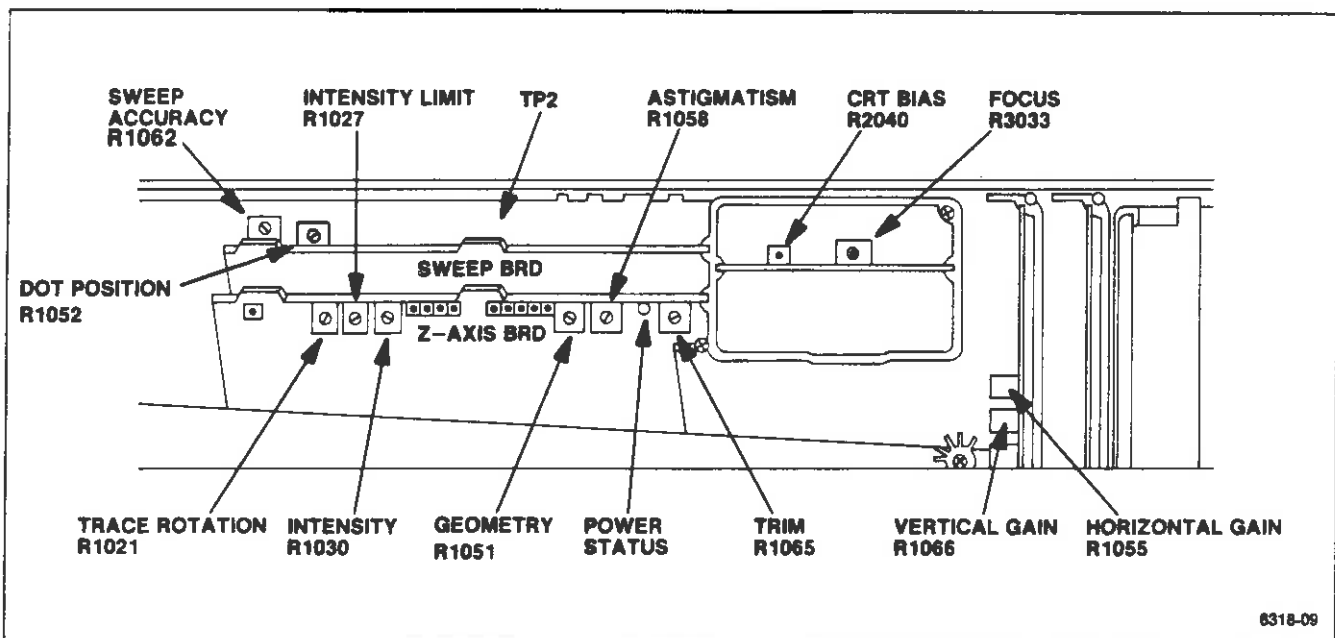
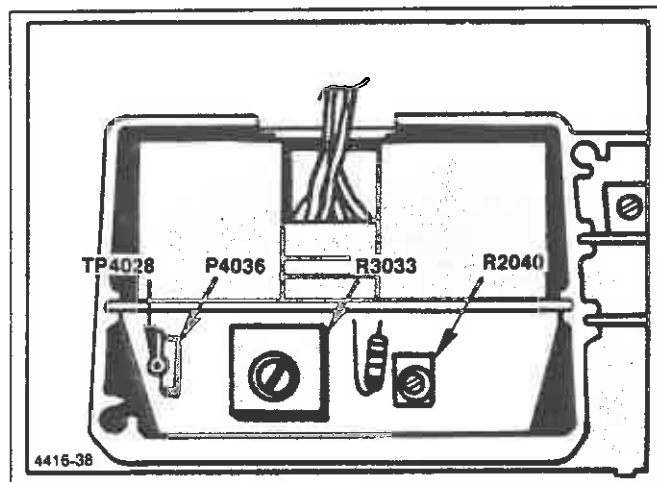

Figure 5-2. Crt display adjustment and test point locations.
Figure 5-3. Adjustment and test point locations on High Voltage module.
b. Remove the cover over the Z-Axis and Sweep boards. Set the Intensity Limit R1027, on the Z-Axis board (Figure 5-2) fully counterclockwise and Crt Bias R2040, on the High Voltage board (Figure 5-3) fully clockwise.
(2) Turn the INTENSITY clockwise until a crt beam dot appears on screen.
(3) Focus the dot by adjusting R3033 on the High Voltage board (Figure 5-3) for the smallest round dot.
(4) Set the INTENSITY control such that the voltage at the collector of Q4058 is 5.5 V higher than the voltage noted in part d, subpart 1.
(5) Use the non-metallic screwdriver to adjust Crt Bias, R2040, counterclockwise until the crt beam is visible, then clockwise until the beam dot just extinguishes, with the screen shaded. (If no dot appears, with the adjustment fully counterclockwise, this will be the bias setting.)
(6) Turn the INTENSITY clockwise until a dot is visible then defocus the dot with the Focus adjustment, R3033. Adjust Astigmatism R1058 (Figure 5-2) for a round dot then refocus with R3033 for the smallest and sharpest dot.
(7) Turn the INTENSITY counterclockwise until the dot just disappears, and again measure the collector voltage at Q4058 or Q4059. Voltage should equal or exceed that set in part d, subpart 4. If the voltage is less, repeat the procedure for setting Crt bias.
(1) Switch POWER off, then remove P4036 (Figure 5-3) on the High Voltage board. Turn INTENSITY fully clockwise, MANUAL SCAN fully counterclockwise, and ensure that the TIME/DIV is in the MNL position. Set the Intensity Limit R1027, on the Z-Axis board, (Figure 5-2) fully clockwise.
(2) Connect the voltmeter between TP4028 (Figure 5-3) and the ground lug on the crt shield.
(3) Switch POWER back on. After the instrument initializes, activate 2 dB/DIV and switch Digital Storage off.
(4) Adjust Intensity Limit R1027 (Figure 5-2) for a voltage reading of 0.9 V at TP4028.
(5) Switch POWER off and re-install the jumper P4036 on the High Voltage board. Turn POWER on and adjust the INTENSITY for normal viewing.
h. Adjust the Trace Rotation R1021 (Figure 5-2) so the trace is aligned with the graticule lines.
i. Activate VIEW A and VIEW B then use the PEAK/AVERAGE cursor, positioned at the top then bottom of the screen, as a reference line to adjust Geometry R1051 (Figure 5-2) for the straightest trace at top and bottom of the screen.
k. Adjust Intensity R1030 (Figure 5-2) so the brightness of the readout characters is slightly higher than the trace. Readout characters should be just visible after the trace has disappeared. This ratio provides the best setting for photograph purposes. Disconnect CAL OUT signal from the RF INPUT.
c. Adjust Vert Gain, R1066 (Figure 5-2) for a full screen display.
e. Set TIME/DIV to MNL. Monitor TP2 on the Sweep board (Figure 5-2) with a voltmeter (Digital Multimeter). Set the MANUAL SCAN control for 0.0 V reading on the voltmeter (TP2). Set the horizontal POSITION control to center the CRT beam (dot).
g. Adjust Horiz Gain, R1055 (Figure 5-2) to position the crt beam to the right graticule edge (10th graticule line).
(1) Press <SHIFT> RESET.
(2) Adjust Dot Position R1052 (Figure 5-2) on the Sweep board to position the dot marker over the start spur.